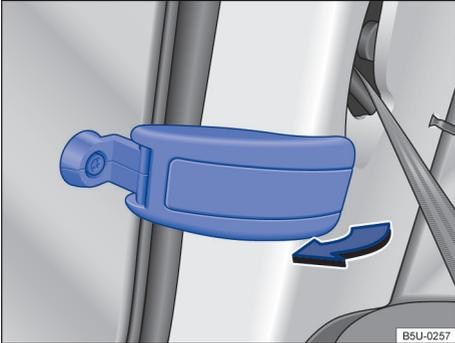

Fig. 53 Open the rear vent window.
- Pull the window detent lever in the direction of the arrow → Fig. 53.